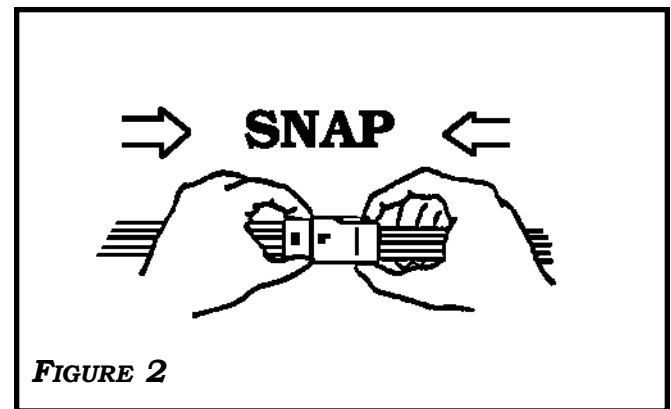

FIGURE 2
- B. WHEN CONNECTING MATING HARNESES, PUSH MALE 4-PIN CONNECTOR (BLACK) INTO FEMALE 4-PIN CONNECTOR (GRAY) UNTIL LOCKING MECHANISMS ARE FIRMLY LOCKED TOGETHER. **FIGURE 2**